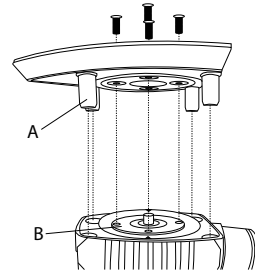

Figure 1
- ▶ Now fit the required sanding plate. Ensure that the mounting plate B is aligned with the sanding plate. The threaded holes of the mounting plate B must be aligned with the corresponding holes on the respective sanding plate. Align the plastic pins A **13** (only on sanding plates **7** and **9**) with the holes in the appliance (see Fig. 1).